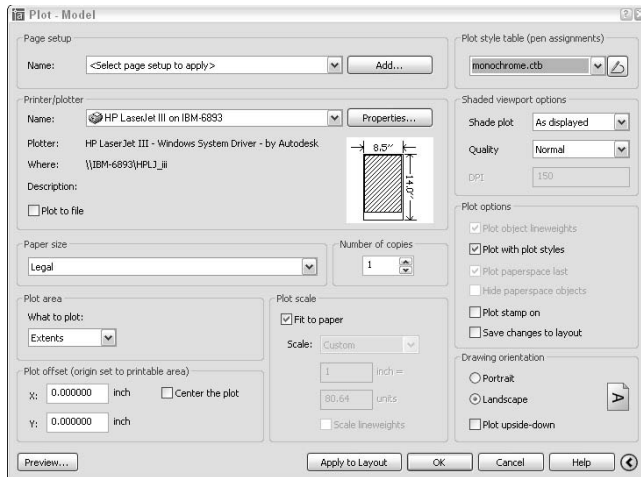

Figure 12-3:
The Plot dialog box reveals additional settings, as shown in Figure 12-3.
12. In the Plot Options area, make sure that Plot With Plot Styles is on and Save Changes to Layout is off, as shown in Figure 12-3.